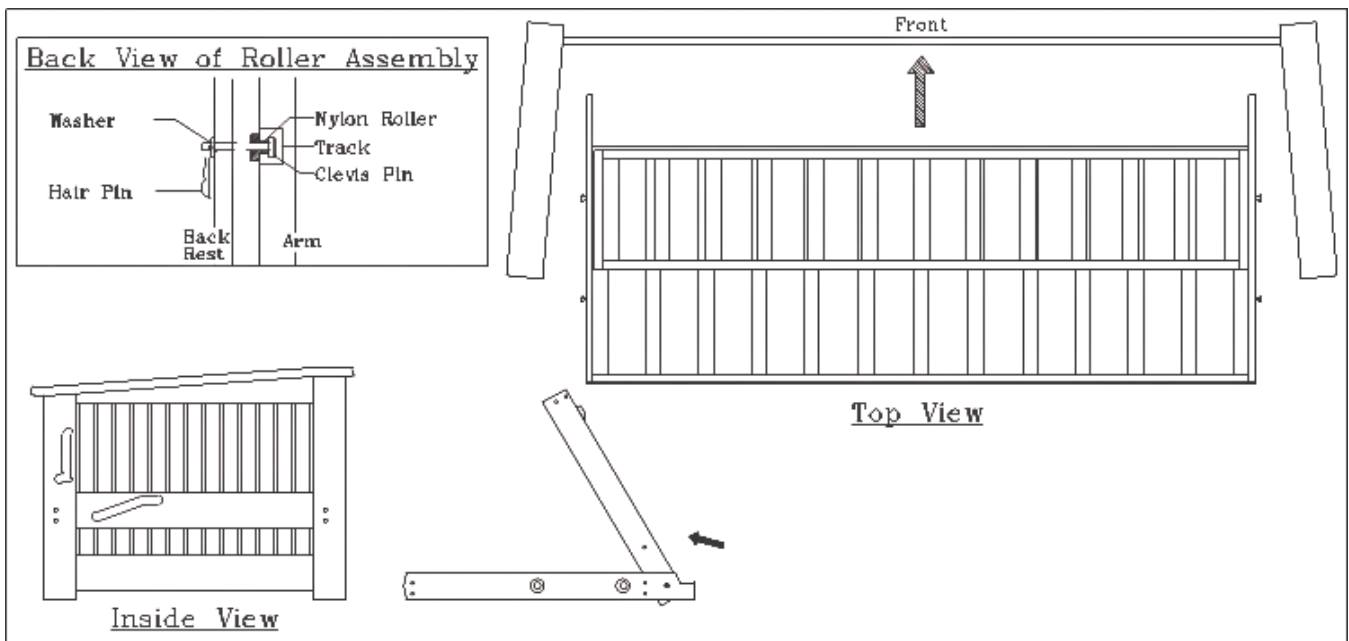

Figure 7
- 9) With the help of a friend, pick up backrest/seat assembly and place into arm/cross rail assembly completed in step #7. The two nylon rollers on backrest will slide into groove on inside of each arm (Figure 7). Pull backs of arms together to hold seat in place.